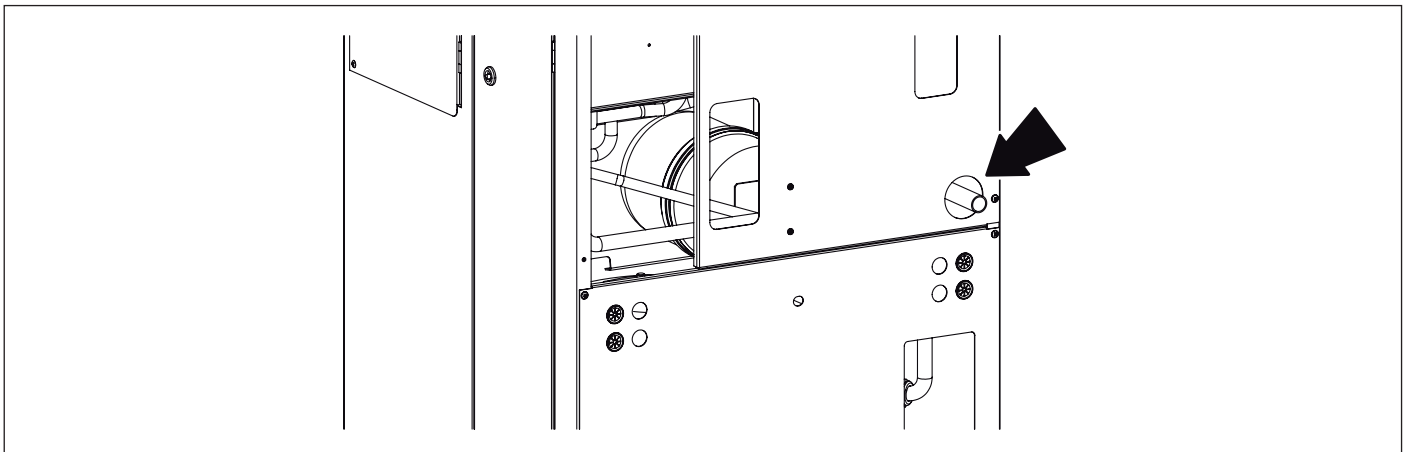

Fig. 16 Condensate drain
When connecting the boiler to gas supply network, it is **COMPULSORY** to install an appropriately sized gasket (A) made from suitable material (see Fig. 16 Condensate drain).